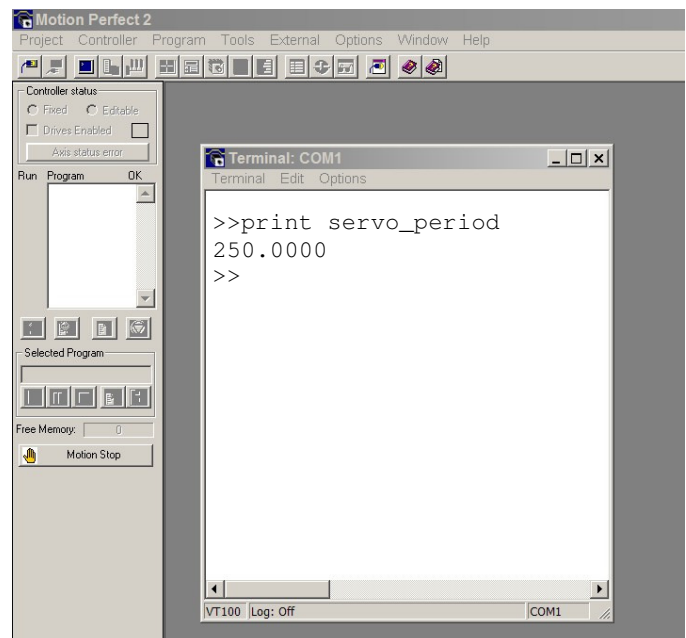

Fig 6 – Verifying `SERVO_PERIOD` after power cycle
6. After power-up, verify `SERVO_PERIOD` at the Command prompt "`>>`" in *Motion Perfect2*, Fig. 6.